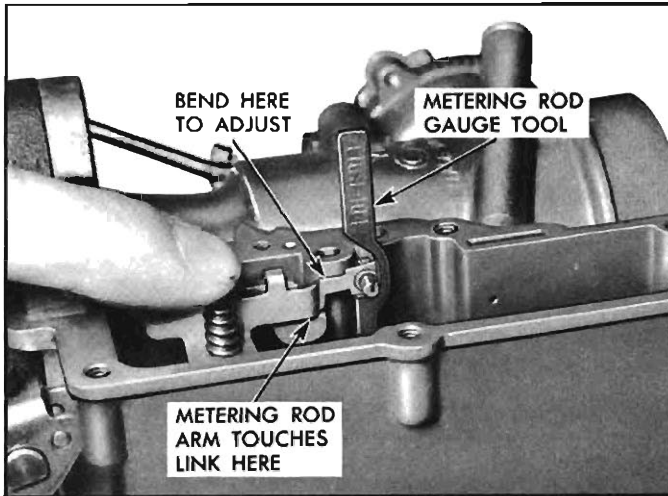

Fig. 9-38—Adjust Metering Rod Arm
- b. Remove metering rod from carburetor and place gauge tool J-21056 in metering jet (fig. 9-38).
- c. Push down on pump diaphragm rod until the metering rod arm just touches the lifter link (at point A, Figure 9-38).
- e. If necessary, adjust by bending metering rod arm at point shown in Figure 9-38.